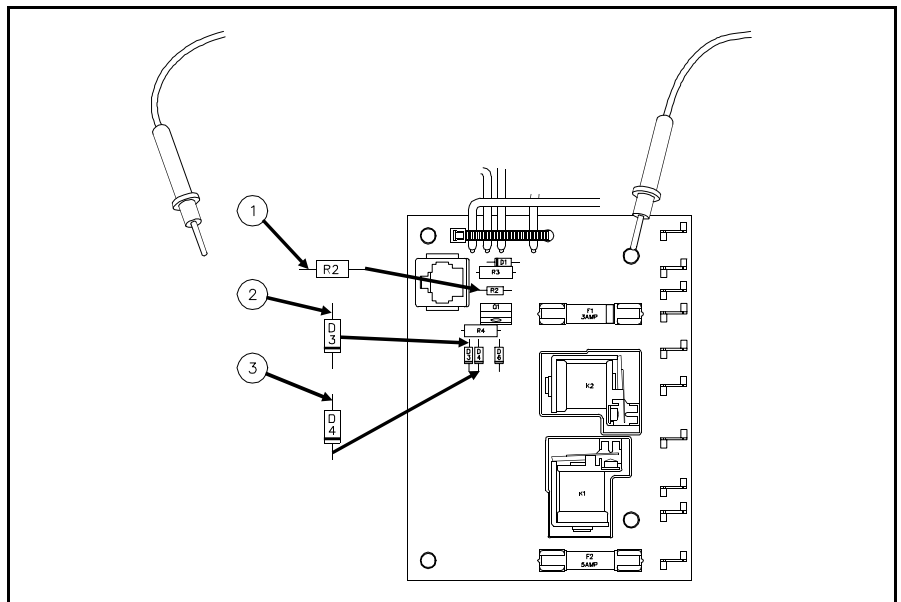

Figure 5.46 12 Volt DC Check
- With the volt meter set to measure DC, check Points 1, 2 and 3 shown in Figure 5.46 for 12 volts DC. If you do not have 12 volts, replace the Power Supply.